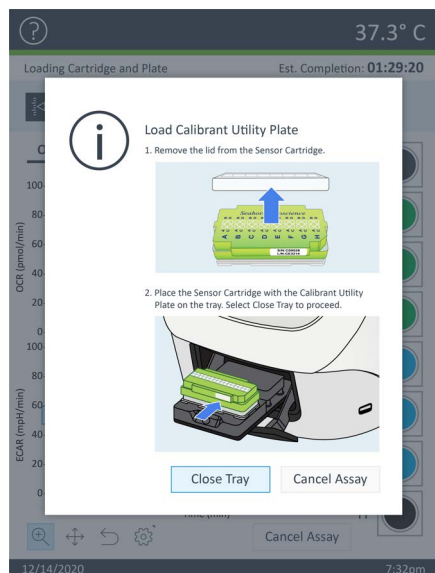

Figure 7. Load cartridge screen.
- 2 Ensure the cartridge fits properly on the utility plate, the lid is removed from the cartridge, and the direction of the cartridge matches the image on the screen. See **Figure 7**.